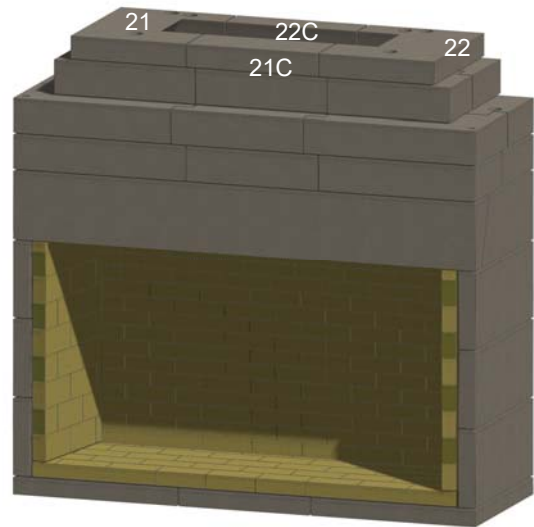

Figure 17, Throat Cap
L. Install the throat cap pieces, items 21, 21C, 22 and 22C, followed by the double flue adapter, item 23B. See Figures 17 and 18.